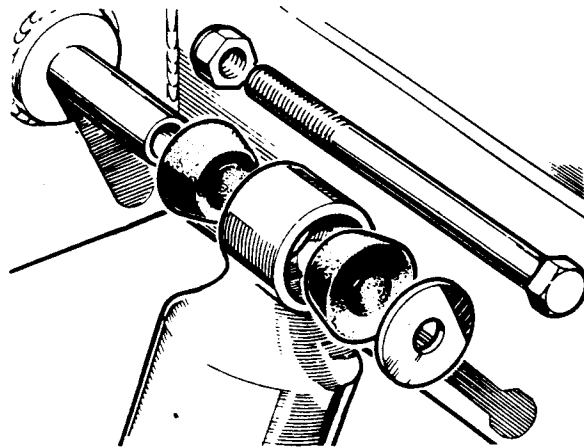

Fig J1.8
- (10) Refer to Fig J1.8. Disconnect the shock absorbers at the upper fixings.